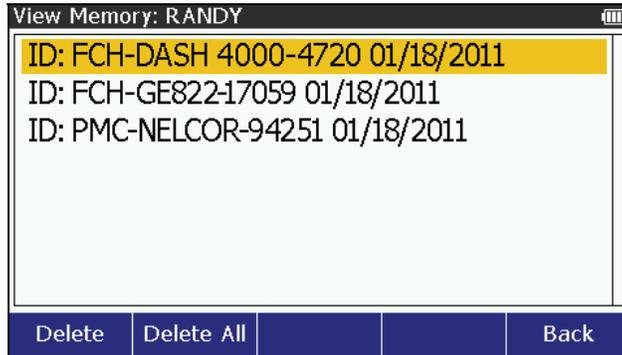

Figure 58. Test ID Screen
6. The list of test IDs shows in the display. Figure 58 shows an example list of test IDs.